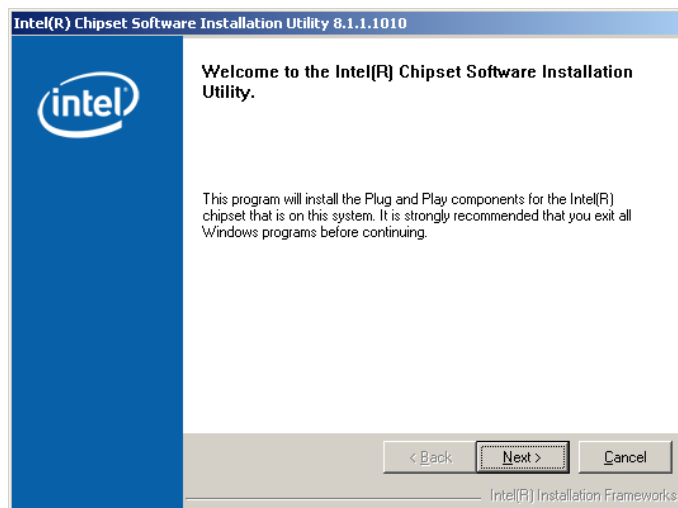

Figure 7-4: Chipset Driver Installation Welcome Screen
Step 4: The welcome screen in Figure 7-4 appears.
Step 5: Click **NEXT** in Figure 7-4 to continue the installation process.